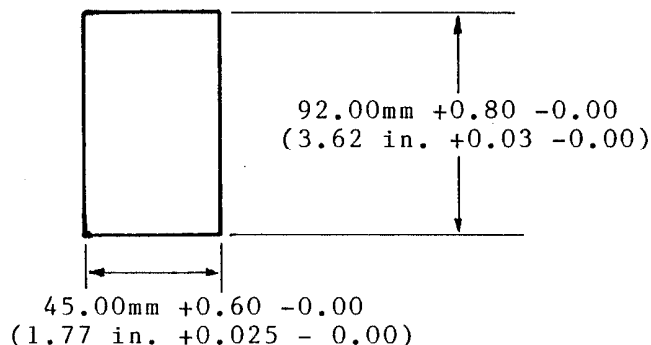

FIGURE 2-1 PANEL CUT-OUT DIMENSIONS
The panel on which the Controller is to be mounted must be rigid and may be up to 6.00mm (0.25 inches) thick. The cut-out required for a single Controller is as shown in Figure 2-1.
1. Loosen the two clamping screws (see Figure 2-1).